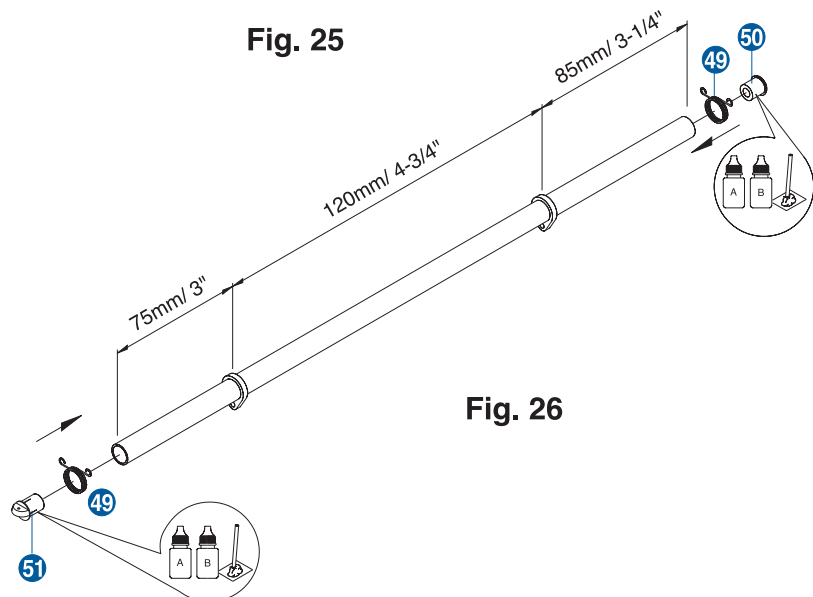

Fig. 26
9. Place boom springs over each end of the jib boom, and epoxy a rear Jib Boom End Cap **50** and front Jib Boom End Cap **51** into each end as show in Fig. 26.